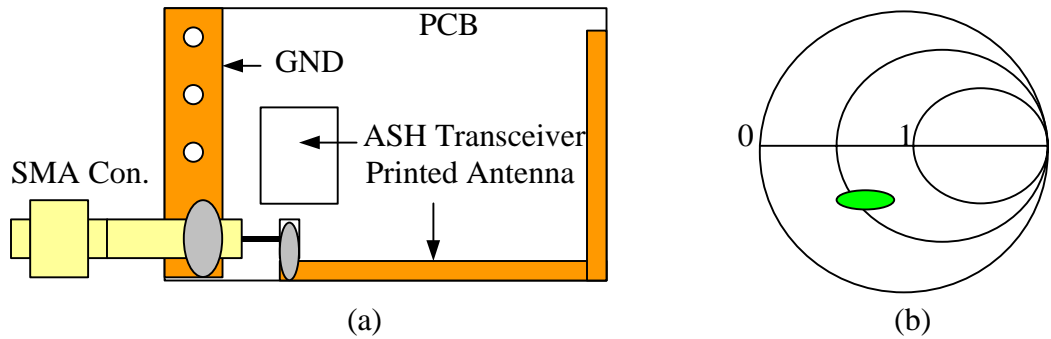

Fig. 2
- a. **Preparation for calibration:** Solder a “pigtail” (a SMA connector with a piece of coaxial cable) to the test PCB. Keep the coaxial cable very short. If a long cable is necessary, you can add ferrite beads to the cable to prevent it from radiating. Keep the test antenna away from the cable and the network analyzer to reduce field reflections. At this point the antenna should be disconnected from the transceiver, and the center conductor of the cable should not be connected to the antenna or the transceiver. See Fig. 2(b). The other simple way is to first calibrate just the pigtail without the PCB.
- c. **Check the antenna impedance:** Solder the central conductor of the coaxial cable pigtail to the test antenna. See Fig. 2(a). Check the antenna impedance with the network analyzer. Normally, the impedance of a short antenna will be lower than 50 ohms and it will be capacitive. The antenna impedance will appear somewhere on the lower half of the Smith chart. See Fig. 2(b).